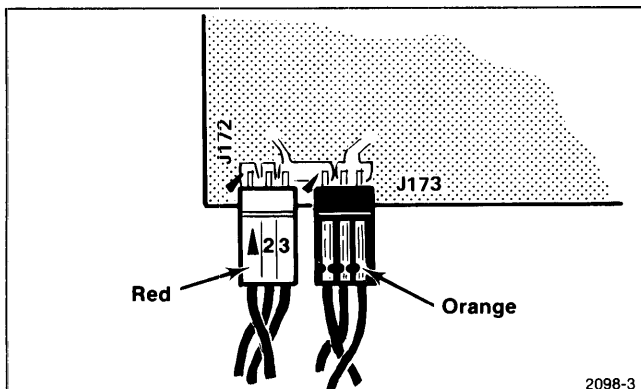

Fig. 2-2. Proper orientation of plugs for Option 2.
10. Remove the plugs from Y-POT (J173) and X-POT (J172). Note that pin 1 is accompanied with a small arrow on both the circuit card and the plug. (Note that J173 is correctly plugged into the connector as shown in Fig. 2-2).
14. Restore original conditions. Replace the Joystick assembly in the housing. Remove all shorting wires and test equipment. Replace the X-POT and Y-POT plugs from the Joystick assembly on J172 and J173 (see Fig. 2-2). Replace the top cover using the stand-off mounts. Replace the bottom cover on the stand-off mounts. Reconnect the Joystick cable to J40 on the rear panel.